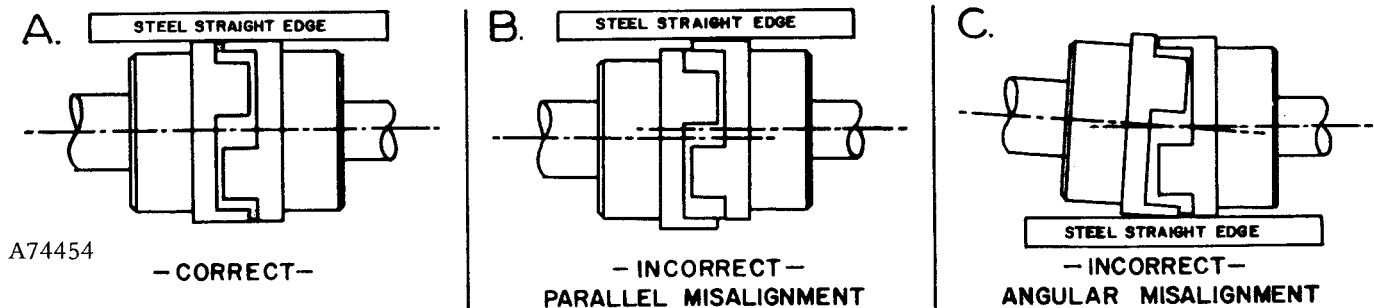

FIGURE 2-7. — COUPLING ALIGNMENT — MODELS ESG, ESH & ESJ
2. Position the coupling body on each shaft (motor and compressor) so that shaft ends are about flush with the face of the body, and flanges rest snugly against the raised dots on the coupling spider faces. When positioning either coupling half on the shaft, make sure the shaft doesn't extend through the coupling to interfere with the spider. Approximate distance between shafts is one (1) inch. Tighten the set screws over the key in each coupling body.
3. Check angular alignment with a feeler gauge by comparing the gap between the coupling jaw and the opposite flange at the three points of proximity. Shim and adjust the motor and compressor so that the gaps are uniform (Views "A" and "C", Figure 2-7). Maximum recommended gap variation is .010".
4. Check parallel alignment by placing a straight edge across both coupling body flanges. Shim and adjust the compressor and motor until the straight edge lies flat on both hubs measured at two (2) points 90° apart (Views "A" and "B", Figure 2-7). Maximum recommended difference in hub level is .010".